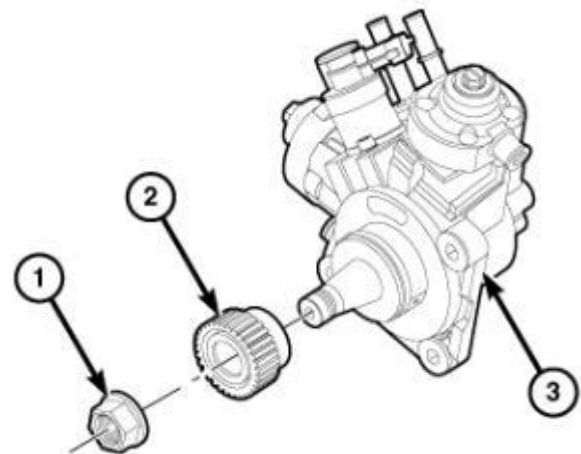

Figure 171 – Swapping the Drive Gear on the HPFP
- 38. The use of Puller 1023 or a commercially available gear puller is required to remove the fuel injection pump gear (2) (Figure 171).
39. If removed, install the gear (2) and nut (1) onto the high-pressure pump (3) and tighten the nut (1) finger tight (Figure 171).